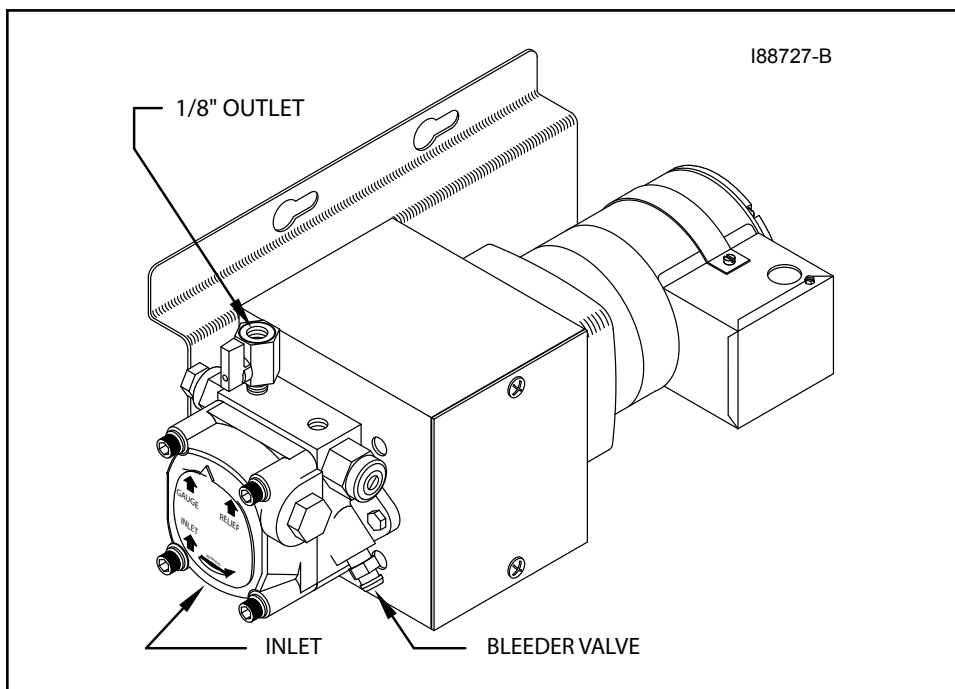

Figure 4E - Standard (Recommended) Vertical Mounting of the Metering Pump
Before starting installation of the metering pump, review Figures 4E, 4F, and 4G to become familiar with the metering pump components. You will also need to accomplish the following activities:
1. Refer to Figures 4E, 4F, and 4G. Note that the metering pump is shipped with the pump head already positioned for the standard vertical wall mounting.
- Install the canister filter assembly onto the 1/4" brass street elbow as shown in Figure 4E. The canister filter must be installed with the arrow pointing towards the pump (direction of oil flow).